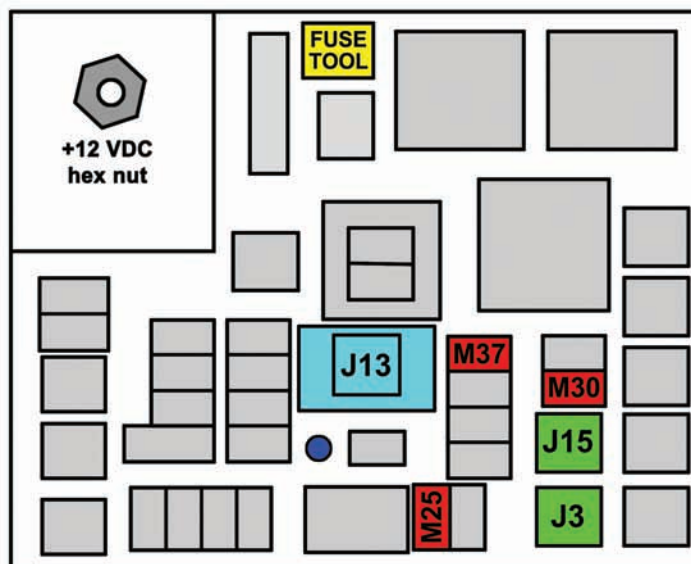
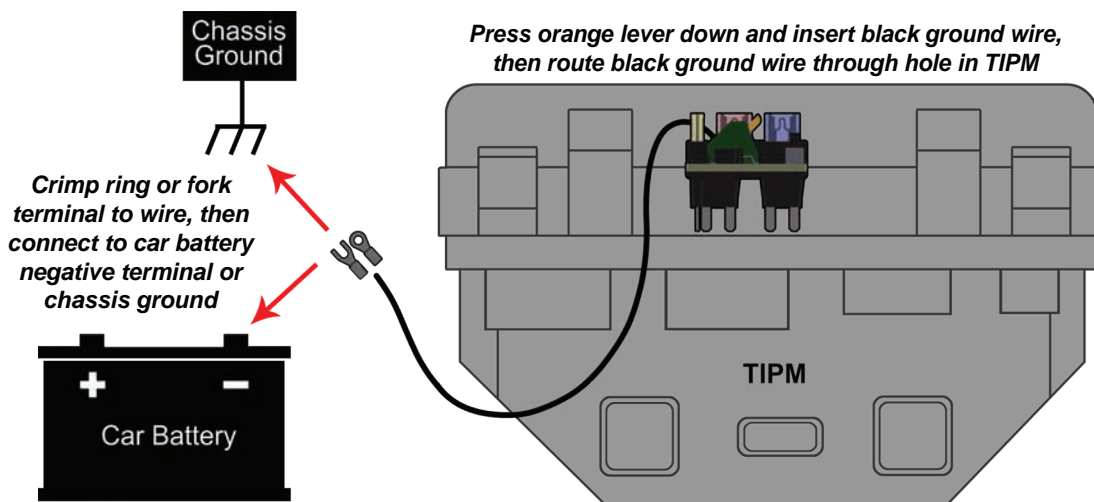

Figure 1 - Fuse locations for use with the TIPM Plug-In Fuel Pump Power Bypass/Test System
Figure 3 - Ground wire routing from TB1 to negative battery terminal or chassis ground
2) Using the mini-blade/cartridge fuse removal tool located near the top of your TIPM (see Figure 1 - shown in yellow), remove three existing mini-blade fuses M25, M30, and M37 (see Figure 1 - shown in red). Insert the three fuses into the corresponding fuse slots in the circuit board.
3) Using the mini-blade/cartridge fuse removal tool, remove two cartridge fuses J3 and J15 (see Figure 1 - shown in green) from your TIPM. Replace these two cartridge fuses with the equivalent low profile cartridge fuses included with your shipment. Make sure the fuse amp ratings are identical after replacement. For example, remove your J15 40 amp cartridge fuse and replace it with the included 40 amp low profile cartridge fuse. The included low profile cartridge fuses allow the circuit board to fit in your TIPM. Note that some vehicles, such as the Dodge Ram, contain only one cartridge fuse that needs replaced (J15) since J3 is empty.
4) Insert the circuit board into the TIPM so the six male terminals slide into the M25, M30, and M37 fuse slots at the same time. If required, lift up the J13 fuse bezel around 1/4" (see Figure 1 - shown in light blue). J13 is your Ignition Off Draw (IOD) fuse, which is normally used to prevent battery drainage when the vehicle is not driven for many weeks. The circuit board is fully inserted when the top of the yellow M25 fuse is nearly flush with the Omron grey plug-in relay located directly to the left. Close and then open the TIPM lid to ensure the circuit
6) Straighten the free end of the ground wire and insert it through the **blue** hole in the TIPM shown in Figure 1. The wire will exit under the TIPM where it can be retrieved. Using a crimping tool or pliers, attach the included ring terminal to the free end of the 20 AWG ground wire as shown in Figures 3 and 4. The included fork terminal can be used instead of the ring terminal in situations where the chassis ground screw can only be loosened. The ring or fork terminal can then be connected to the vehicle's chassis ground or negative battery terminal to complete the connection. See Figure 3 for details.
Answer: Yes. Simply push down on the white bezel surrounding your J13 fuse (see Figure 1 - shown in **light blue**). This fuse is sometimes lifted up during the installation of the TIPM Plug-In Relay System and it must be pushed down when complete. J13 is your Ignition Off Draw (IOD) fuse that is normally lifted up to prevent battery drainage during long periods of time where the vehicle is not used (i.e. while at the airport during long vacations). Push it down all the way to resolve the problem.
- Confirm that you replaced your taller J15 and/or J3 cartridge fuses (see Figure 1 - shown in **green**) with the lower profile versions provided in your shipment. Many Dodge Ram vehicles will not have a J3 fuse installed. Your HVAC system will not work if you fail to install one of these fuses.